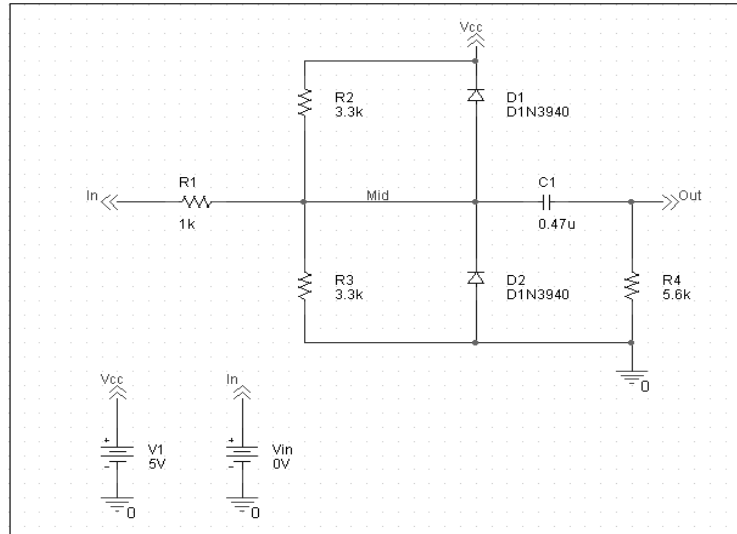

Figure 2 Diode clipper circuit.
This section describes how to use OrCAD Capture to create the simple diode clipper circuit shown in Figure 2.
- 6 Move the pointer to the correct position on the schematic page (see Figure 2) and click to place the first part.
- You will change part names and values that do not match those shown in Figure 2 later in this section.
- 3 Follow similar steps as described for the diodes to place the parts listed below, according to Figure 2. The part names you need to type in the Part name text box of the Place Part dialog box are shown in parentheses:
- resistors (R)
- capacitor (C)
- 6 Place the off-page connector parts according to Figure 2.
- 7 To place the ground parts (0), click the GND button on the tool palette.
- 9 Place the ground parts according to Figure 2.
- 6 Continue connecting parts until the circuit is wired as shown in Figure 2 on page 2-16.
Label the off-page connectors as shown in Figure 2 on page 2-16.
- 5 Continue naming the remaining parts until your schematic looks like Figure 2 on page 2-16.
- 4 Continue changing the Part Value properties of the parts until all the parts are defined as in Figure 2 on page 2-16.